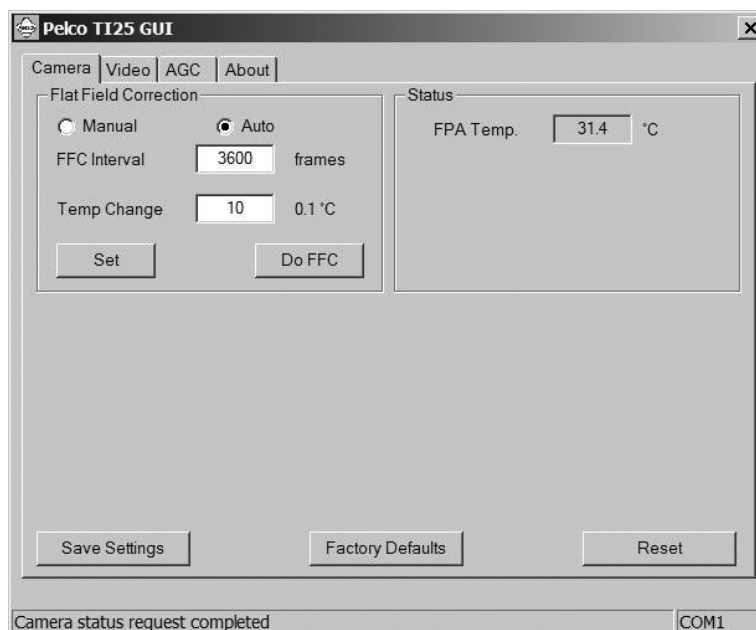

Figure 6. TI25 GUI Camera Tab
The following sections describe how to use each FFC option (refer to Figure 6).
3. Once all required changes are made, click the Camera tab (refer to Figure 6 on page 15), and then click Save Settings.